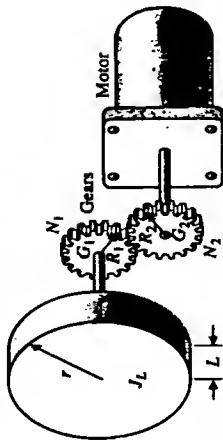

FIGURE P2.45 Motor, gears, and load.
2. An ideal set of gears is connected to a solid cylinder load as shown in Fig. P2.45. The inertia of the motor shaft and gear G_2 is J_m . Determine (a) the inertia of the load J_L and (b) the torque T at the motor shaft. Assume the friction at the load is f_L and the friction at the motor shaft is f_m . Also assume the density of the load disk is ρ .